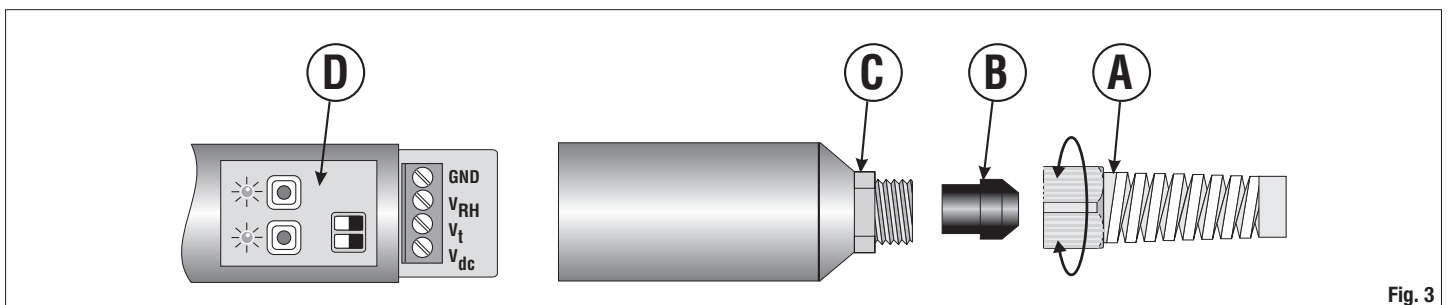

Fig. 3
Follow these procedures to access the transmitter terminal board (see fig.3):
- To access the panel board, unscrew grommet "A" (see fig. 3) and hold the cable firmly to avoid twisting. Take off the rubber bulb and unscrew the bottom of the instrument.
- To access the panel board, unscrew grommet "A" (see figure 3) and hold the cable firmly to avoid twisting. Take the rubber bulb off and unscrew the bottom of the instrument.